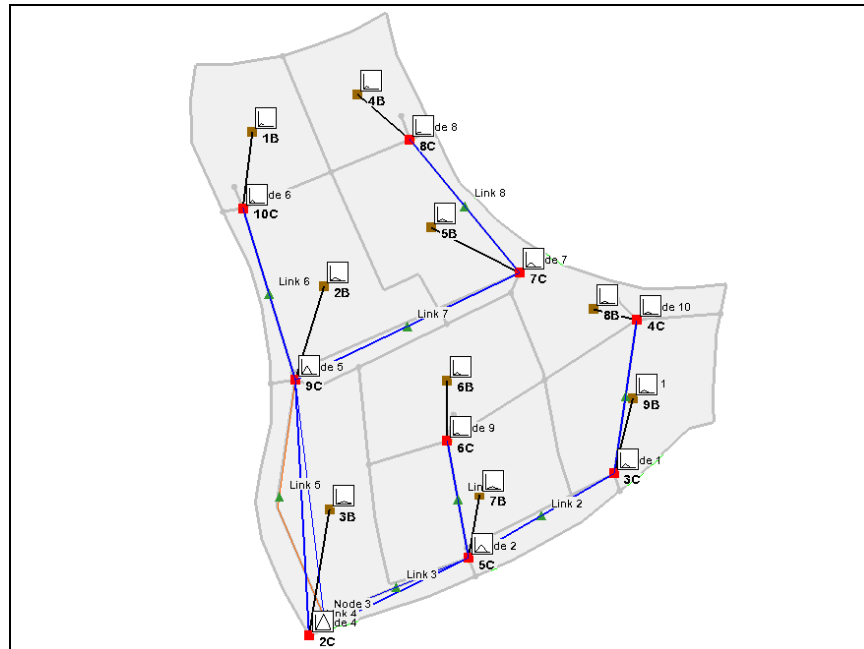

Figure 12 Rational Method hydrographs for SWMM
8. Notice that each basin and outlet icon shows a hydrograph icon (Figure 12).